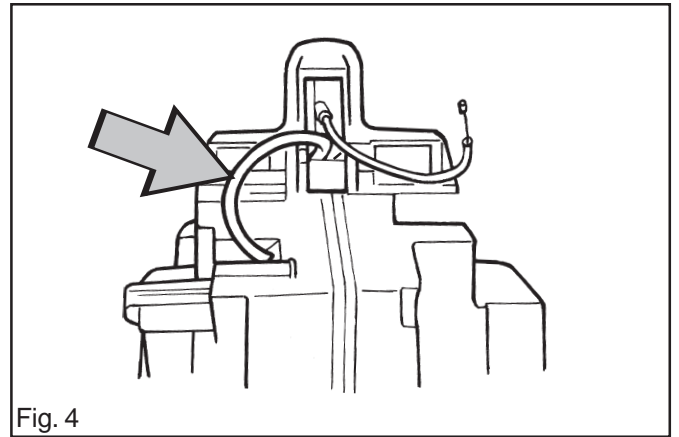

Fig. 4
- B Press the oiled part through the hole in the tank unit. Allow 80-85 mm to protrude on the outside. See fig. 4.
- C Turn the pipe so that it bends upwards. See fig. 4.